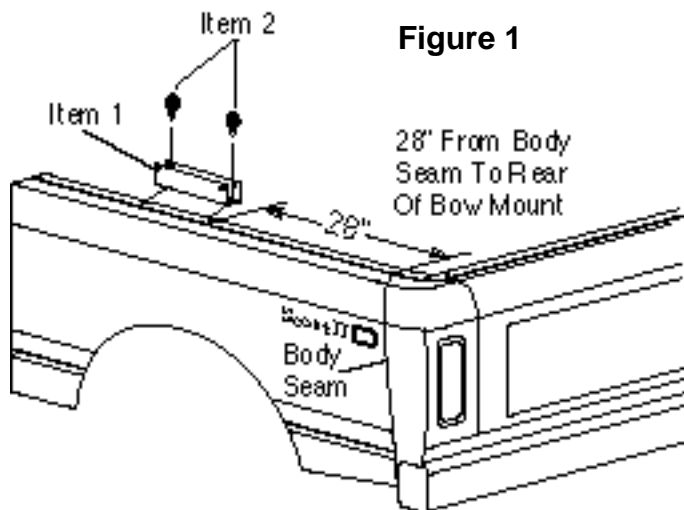

Figure 1
Step 1. Bow Mount. Measure 28" from the body seam at corner and mark a line on raised level of the body. The rear of the bow mount (Item 1) will be positioned on this line. Using bow mount as a template, mark and drill 5/32" holes. Only one front and one rear hole of bow mount will be used. Secure bow mount to body with #14 x 1/2" sheet metal screws (Item 2). Repeat for the other side. See figure 1.